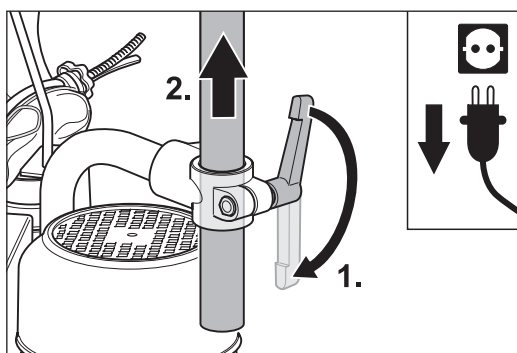

Fig. 16 Undoing the clamping lever at the pipe bend and removing the extension.
- 5 Undo the clamping lever at the front end of the pipe bend and pull the extension upward out of the bracket (Fig. 16). Put the extension aside.